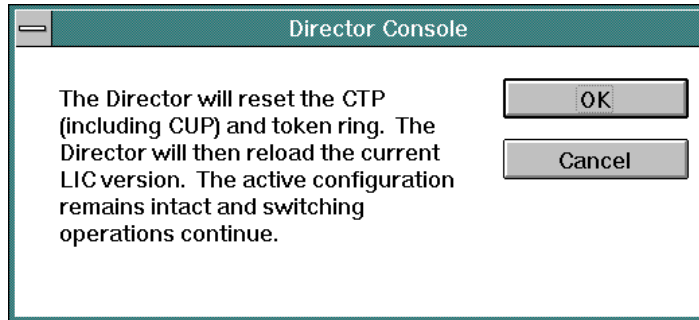

Figure 10-20. Reset CTP Card Dialog Box
8. Select the *IPL Director* option from the *Utility* menu. The following dialog box appears (Figure 10-20).